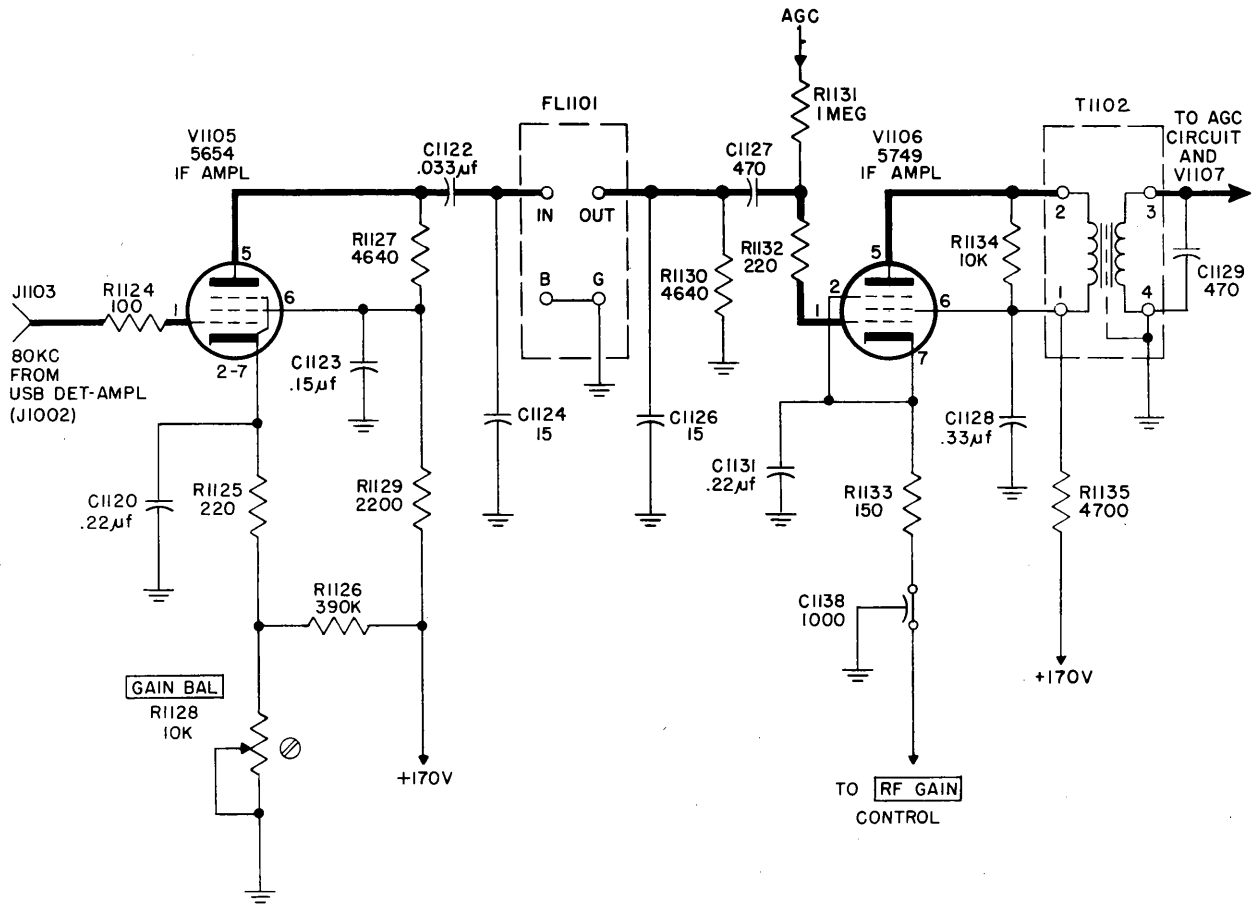

Figure 4-32. IF Amplifiers V1105 and V1106, Simplified Schematic Diagram
b. IF AMPLIFIER V1105-1106. (See figure 4-32.)—The control grid of V1105 receives its 80 kc input from the USB detector-amplifier through connector J1103. The amplified output is developed across plate load resistor R1127 and applied through coupling capacitor C1122 to bandpass filter FL1101, which has an operating bandwidth of 80.3 kc to 84 kc.